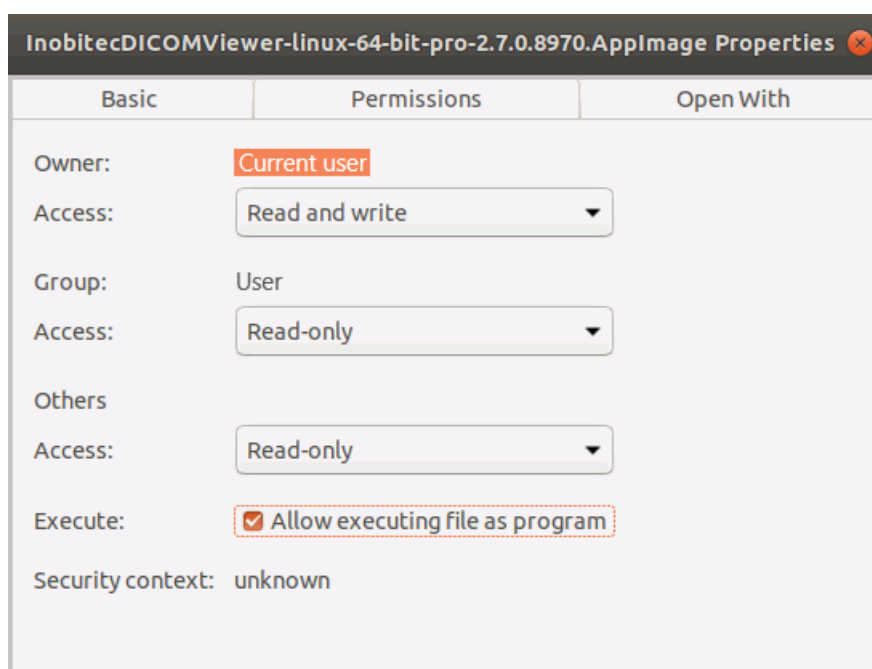

Figure 14: «Properties» menu
2. Provide the Applmage file a permission to be executed. For that purpose, mouse over the file and click the right mouse button. In the context menu, select **Properties**. When the **Properties** menu (Fig. 14) pops up, go to the **Permissions** tab and check the **Allow executing file as program** box. Close the **Properties** menu.